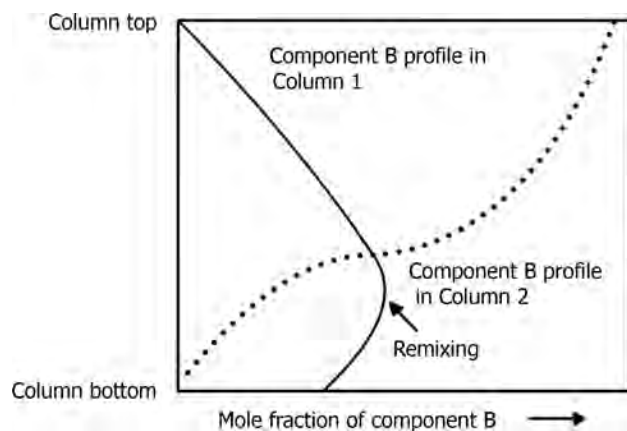

FIGURE 17.38 Remixing in the conventional direct distillation sequence.
- Figure 17.38 gives the concentration profiles.